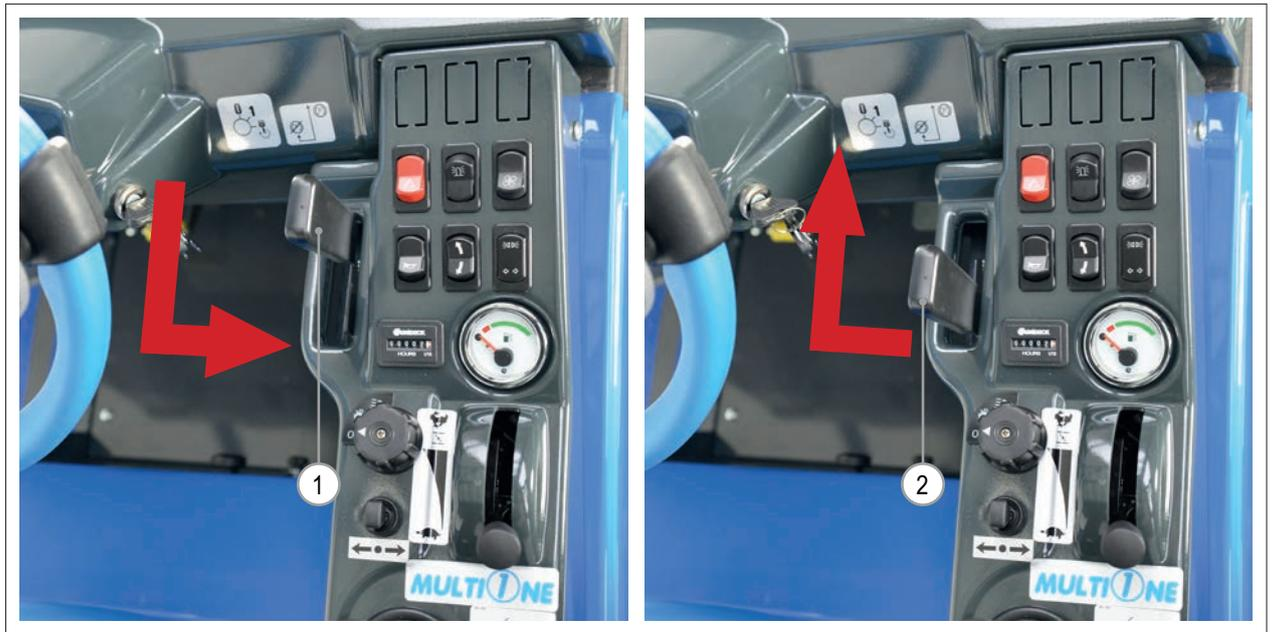

FIG. 26
- 1) Pull the parking brake lever (**FIG. 26 - Ref. 1**) backward and lock it by pushing it to the Left.
- 1) Unlock the the parking brake lever (**FIG. 26 - Ref. 2**) by moving it to the right and forward.